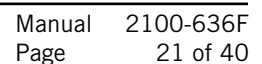

FIGURE 3
Use this diagram when connecting the MV Series controller to two (2) H Series 1-stage units without the economizer vent option. Compressor and filter alarm functionality is present when wired per Figure 3.